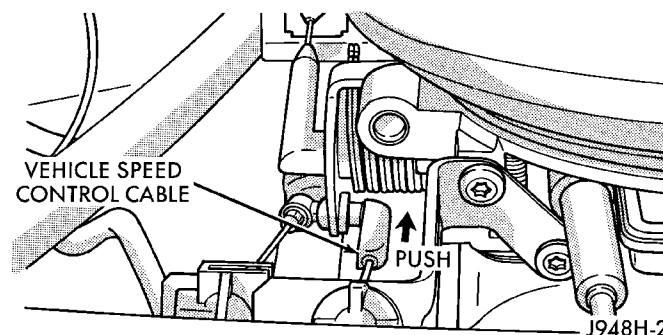

Fig. 7 Cable at Bell Crank—5.2L/5.9L V-8 Engines
- (3) 5.2L/5.9L Engines: Using finger pressure only, remove speed control cable connector at throttle body bellcrank by pushing connector rearward off the bellcrank pin (Fig. 7). **DO NOT try to pull connector off perpendicular to the bellcrank pin. Connector will be broken.**